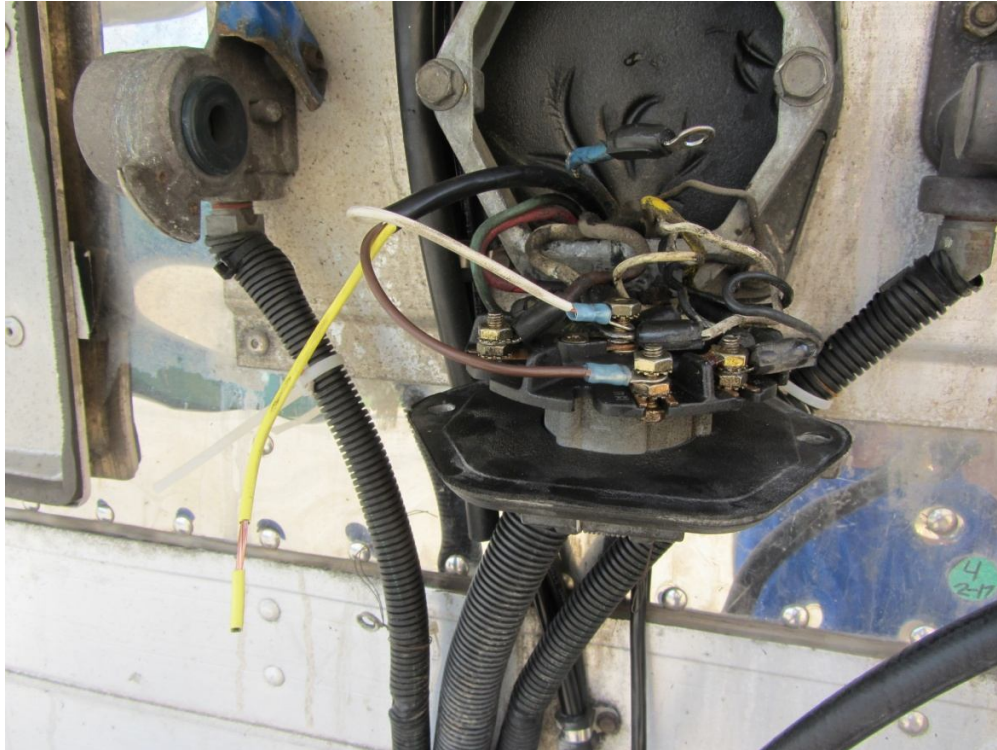

Figure 33
- Remove the cover to the trailer 7 pin connector box. See Figure 33